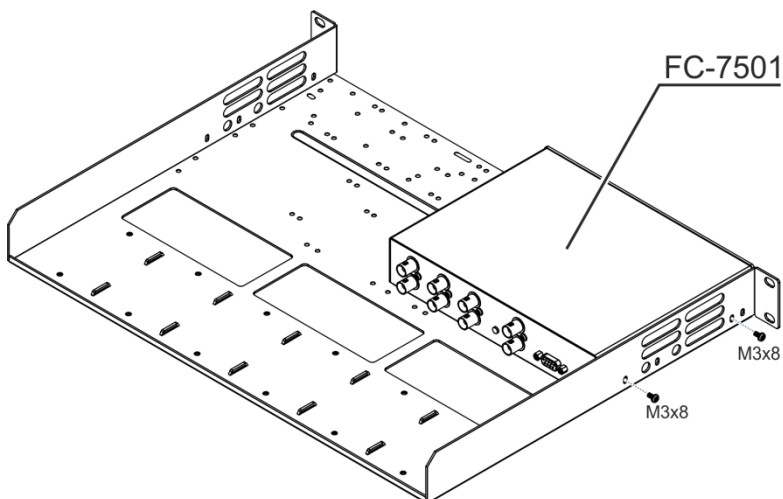
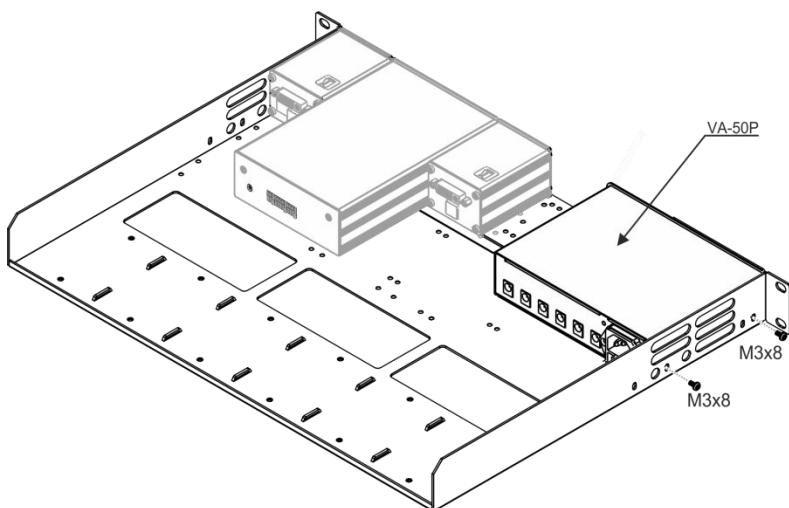

Figure 3: Mounting a half-19" Device via Screws on the RK-6PS Side Panel
Figure 4: Mounting a 6.5" Device via Screws on the RK-6PS Side Panel
To mount the devices on the **RK-6PS** as illustrated in Figure 3 and Figure 4 (**FC-7501** and the **VA-50P** respectively), do the following:
3. Insert the two M3x8 screws (supplied with the unit) through the holes on the side panel of the **RK-6PS** that fit the holes on the side panel of the unit (as illustrated in Figure 3 and Figure 4).